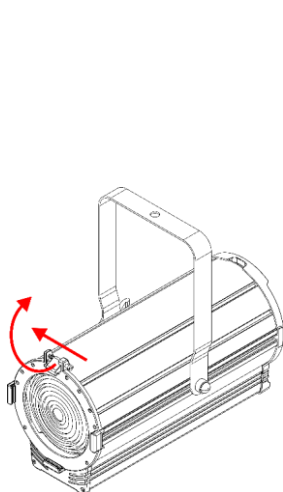

Fig. 08
- 01) Push the **spring-loaded screw (01)** and at the same time lift the **color frame clip (02)** and flip it backwards (see Fig. 08).